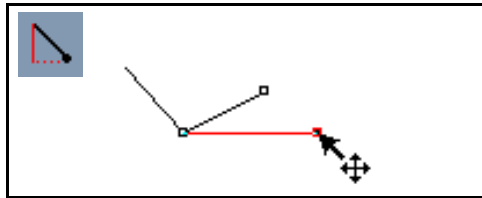

Figure 3.15 *Using the move point tool*
*Figure 3.15* shows how the move point tool is used to move the right hand line point downward.